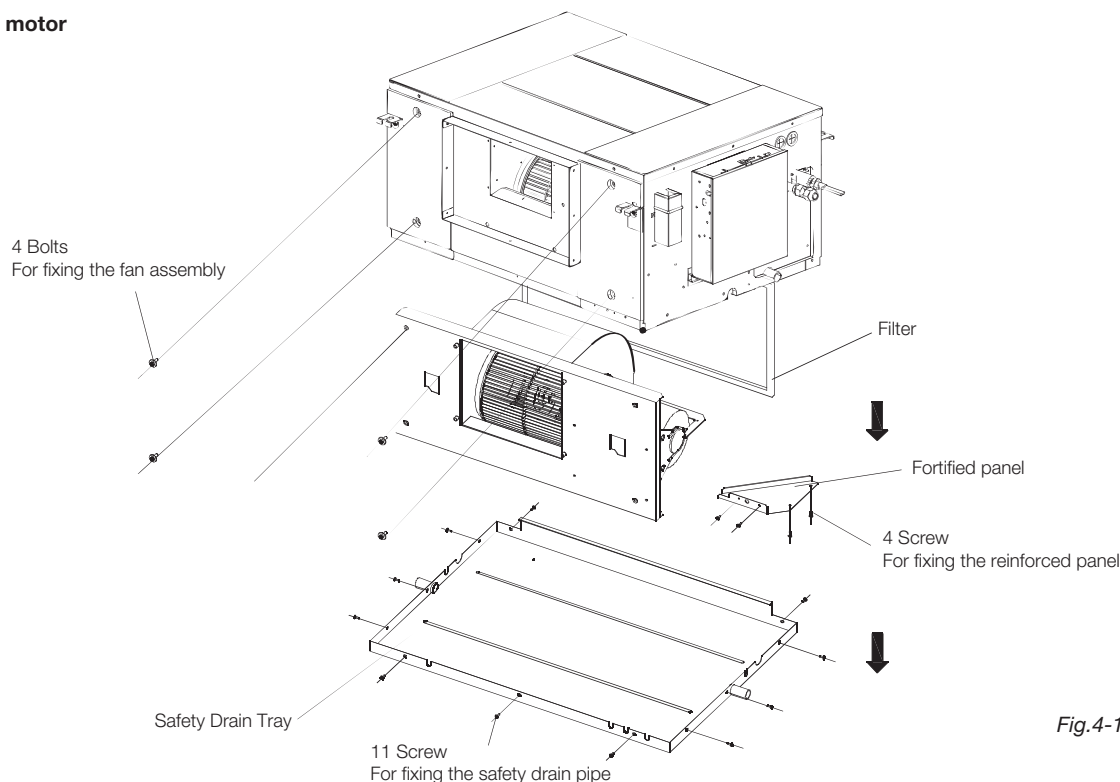
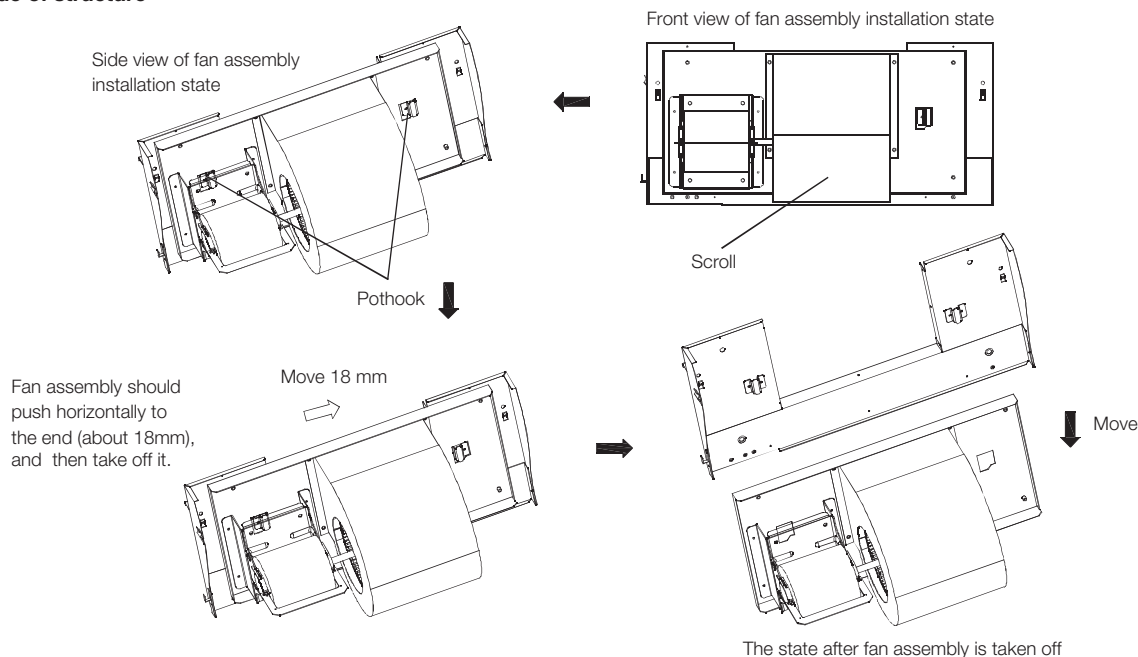

Fig.4-13
Fig.4-14
1. Refer to Fig. 4-13, remove all 11 bolts from safety drain tray, and take off the safety drain tray.
2. Refer to Fig. 4-13, remove all 4 bolts from reinforced panel, and take off the panel.
3. Refer to Fig. 4-13, remove all 4 bolts from fan assembly, see Fig. 4-14, according to which orders to take off the fan assembly.
4. Refer to Fig. 4-14, horizontal pushing the fan assembly, until it cannot not move any further, and then lift up slightly and take down to remote it.